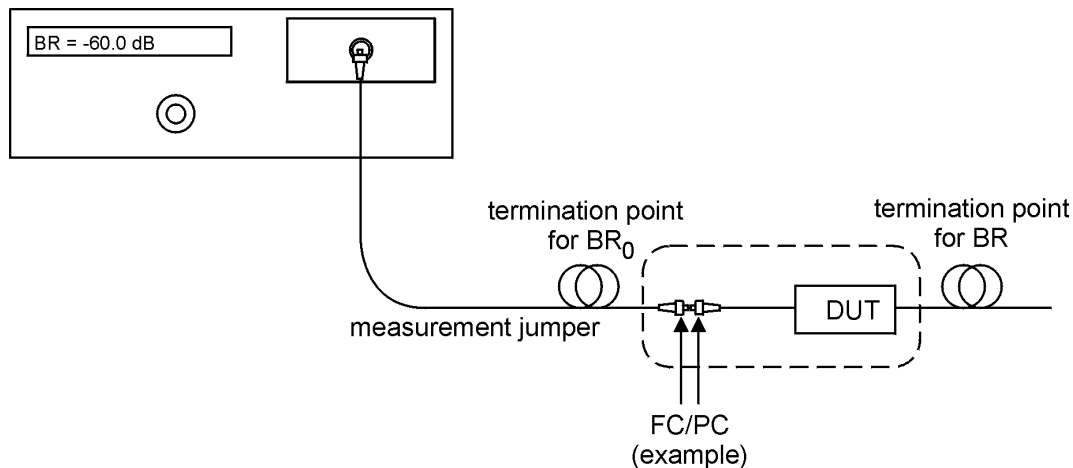
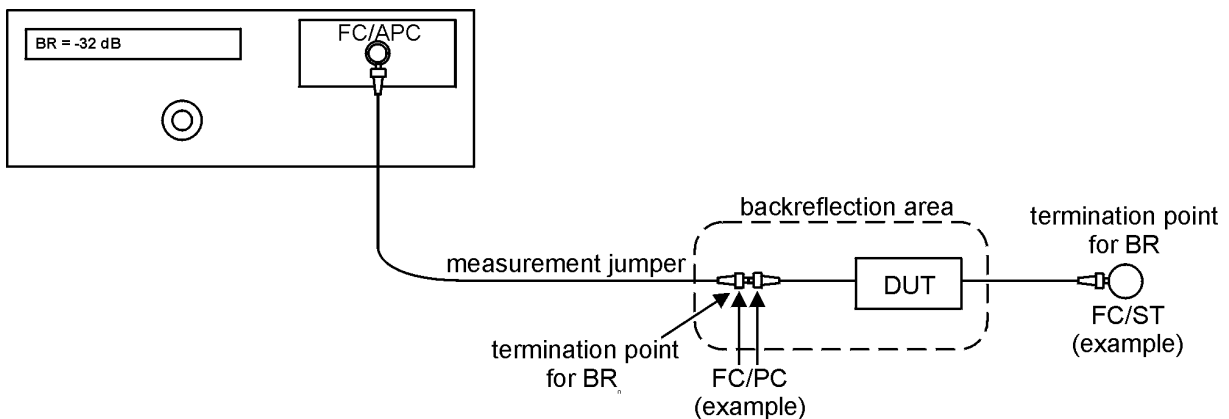

Figure 6a: Measuring Backreflection for Single-mode (except 980 nm)
Figure 6b: Measuring Backreflection for Single-mode (980 nm only) and Multimode
- The second termination is made after the DUT in order to obtain Br_{tot} (figure 6a).
- The second termination is made after the DUT in order to obtain Br_{tot} (figure 6b).
3. Terminate the measurement jumper immediately after the DUT, and hold the termination point steady. The meter displays the backreflection between the two termination points that is caused by the fiber, all connections, and the DUT. This area is shown within the dashed line in Figure 6a for single-mode (except 980nm), and in Figure 6b for single-mode (980nm) and multimode.